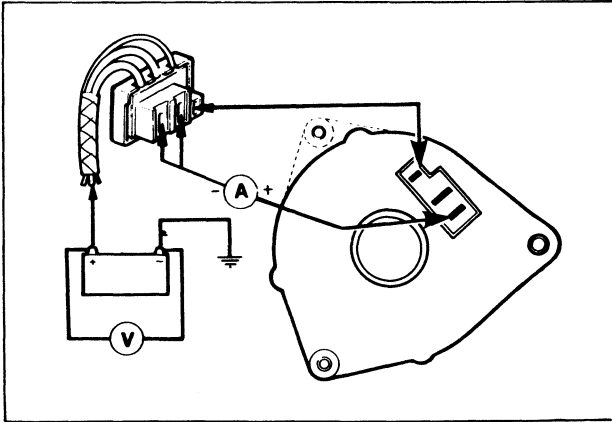

FIG. 2 Control Voltage Test
2. Connect Voltmeter Ammeter and jumper as shown in Figure 2. Use caution to prevent grounding the terminals to the alternator housing.